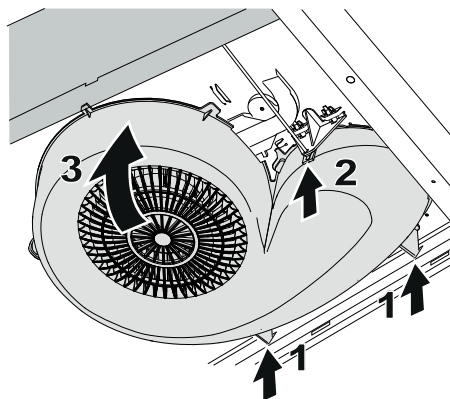

Fig. 7
Refit the fan housing by inserting the supports in the rear of the fan (1). Check that the damper shaft is correctly positioned in the fan housing (2). Bend up the fan housing (3). Fig. 7